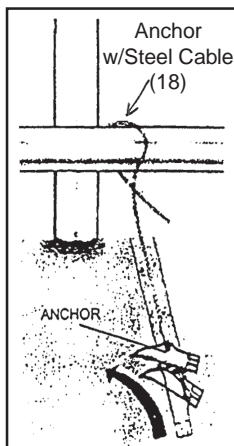

Figure 8
1. The RV Shelter needs to be anchored down and the frame needs to be secure. From the inside of the Shelter, place the Anchors with Steel Cable (18) on all four corners. Place the remainder of the Anchors on the inside of the Bows at intervals. **See Figure 8.**
3. If installing in dirt, drive the Anchor (18) into the soil using a hammer and drive rod (not provided). The more you hammer, the more the Anchor goes into the soil, compacting the soil around it. Remove the drive rod once you have established the proper depth.
5. After placing all the Anchors, wrap the Wire Cable from each Anchor, around the Bottom Rails and securely attach it to itself using Clamps (25) (not shown). **See Figure 8.**